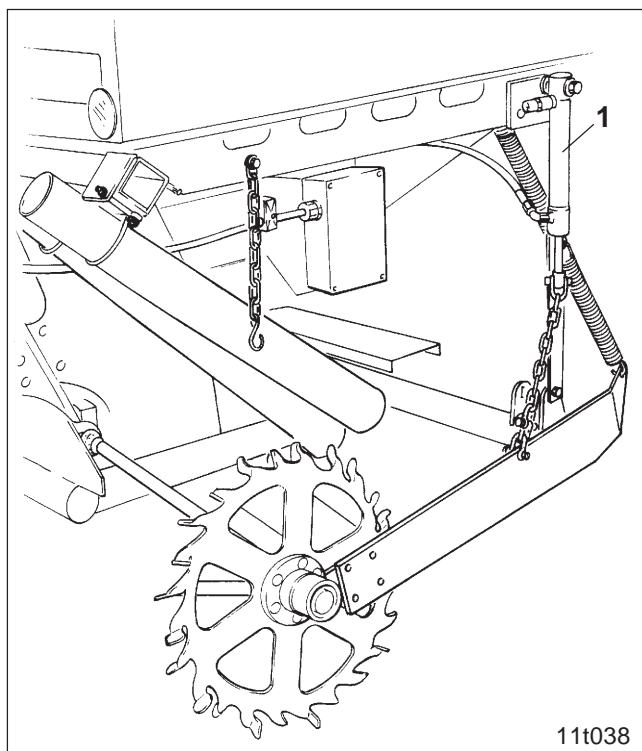

Fig. 5.5
Raise star wheel, detach from the chain and lower (see Fig. 5.5).
- Connect hydraulic ram (Fig. 5.5/1) for actuating the star wheel to a single acting control valve on the tractor.
Before turning at the field's end raise the star wheel with the hydraulic (Fig. 5.5/1) in order to avoid seed loss and damage on the star wheel.